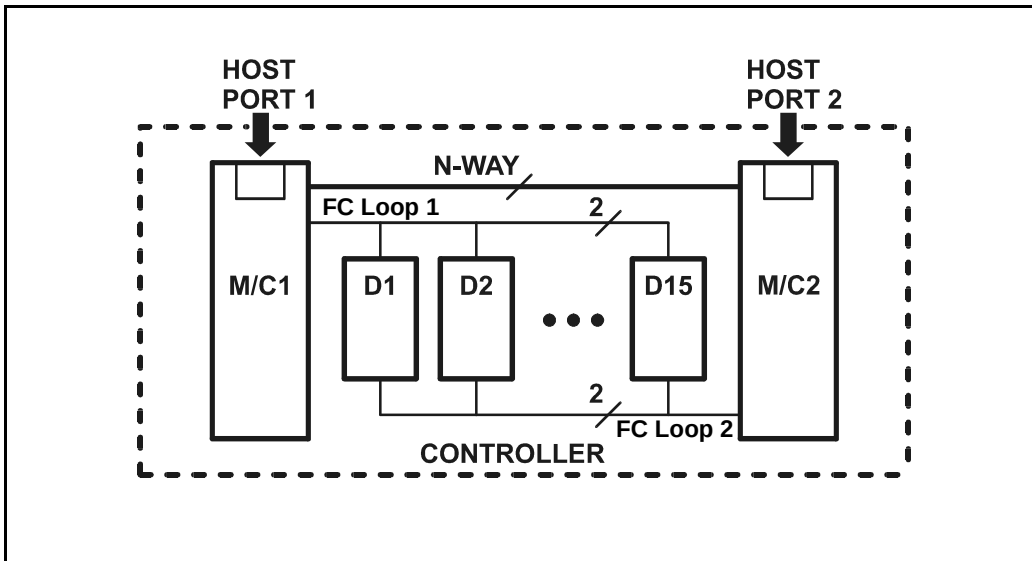

Figure 9 VA 7100 Data Path (One Redundancy Group)
The VA 7100 has only one redundancy group (see Figure 9). All 15 of the disk drives (D1-D15) in the main (M) controller enclosure are accessible by both Controller 1 (C1) and Controller 2 (C2), with no physical restrictions.